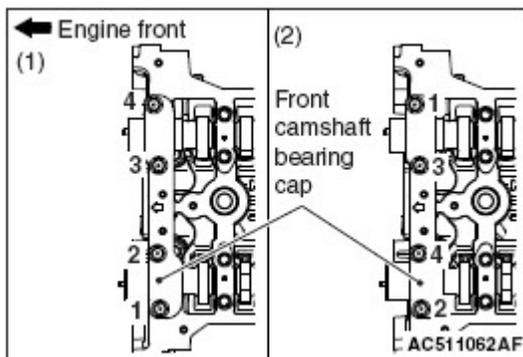

Fig. 56: Identifying Front Camshaft Bearing Cap Mounting Bolts Tightening Sequence
1. Install the front camshaft bearing cap to the cylinder head, and temporarily tighten the front camshaft bearing cap mounting bolts to the specified torque in the order of (1 in **Fig. 56.**)
2. Tighten the front camshaft bearing cap mounting bolts again to the specified torque in the order (2 in **Fig. 56.**)